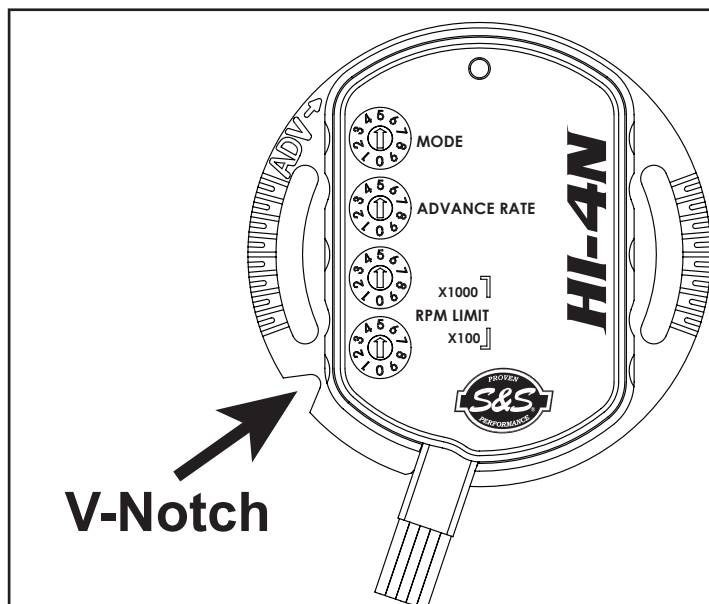

Figure 5
4. Note location of timer plate. There is a V-notch (**Figure 5**) in the timer plate used for alignment. When you install the HI-4N, align the V-notch in the same location. This should set the timing close enough to start the engine. Remove and save the two standoffs and washers. Remove the sensor, shield, timer plate, trigger rotor, and advance assembly.
4. Note location of breaker plate. There is a V-notch (**Figure 5**) in the breaker plate used for alignment. When you install the HI-4N, align the V-notch in the same location. This should set the timing close
- Note location of sensor plate. There is a V-notch in the sensor plate used for alignment. **See Figure 5.** When you install the HI-4N, you should align the V notch in the same location. This should set the timing close enough to start the engine. Remove and save the two standoffs and washers. Remove the sensor plate.
Below is a description of the function for each switch. Refer to the **Figure 5** to locate rotary switches for the following functions.
The top, "X1000" switch adjusts the rev limit in 1000 RPM increments and the "X100" switch adjusts the rev limit in 100 RPM increments. The rev limit on the HI-4N shown in **Figure 5** is set to 5500 RPM.